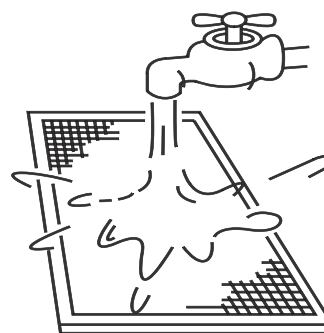

Fig.4-7
- ② Take out the air-in grill.
- ③ Dismantle the air filter
- ④ Clean the air filter (Vacuum cleaner or pure water may be used to clean the air filter. If the dust accumulation is too heavy, please use soft brush and mild detergent to clean it and dry out in cool place).
- ⑤ The air-in side should face down when using water. (See Fig.4-7)